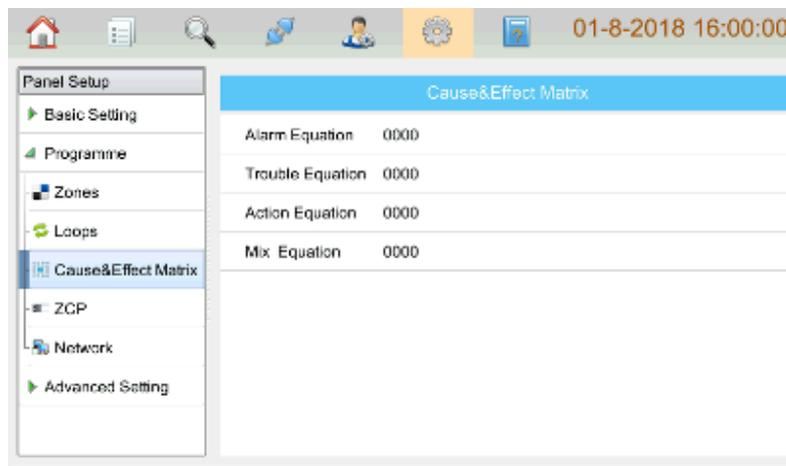

Fig 4.21
- Cause & Effect Matrix: clicking **Cause&Effect Matrix** in **Programme** menu enters the screen below Fig 4.21 including **Alarm Equation**, **Trouble Equation**, **Action Equation** and **Mix Equation**.